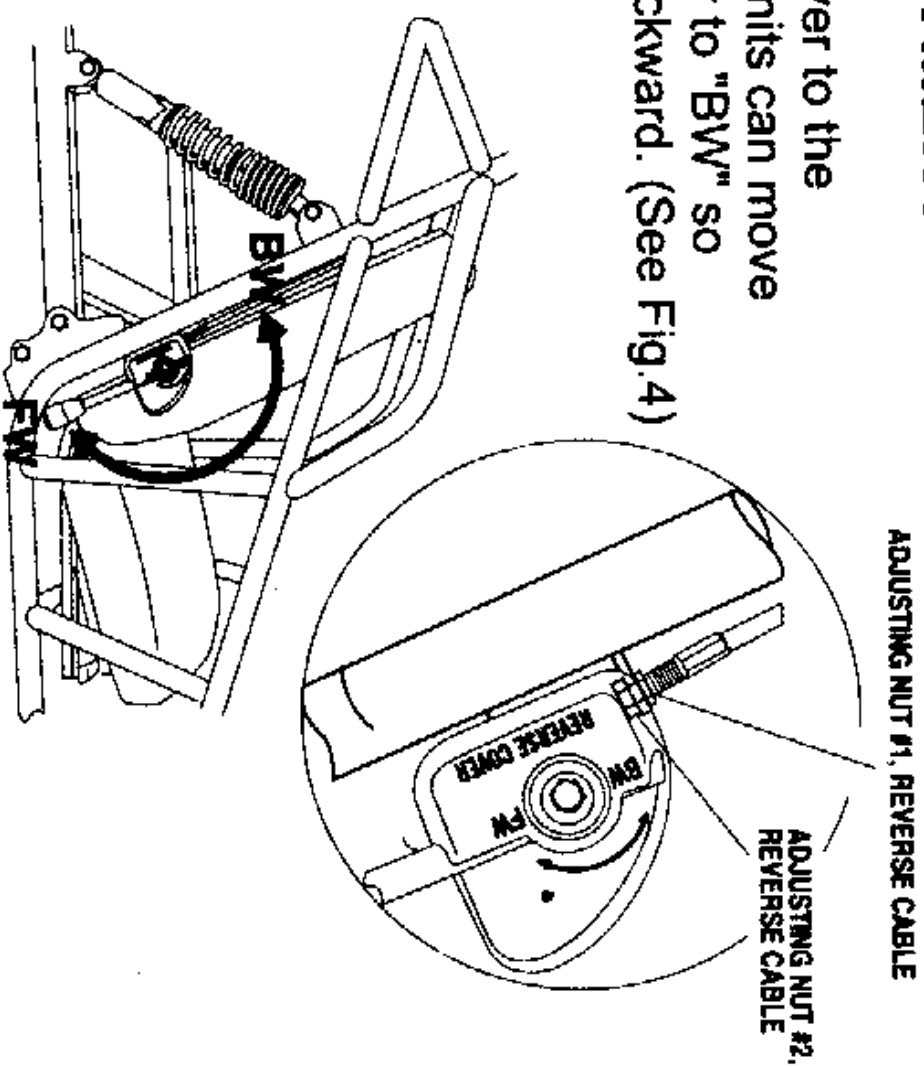

Figure 4
1. Press down the reverse lever to the "FW" position so that the units can move forward, pull back the lever to "BW" so that the units can move backward. (See Fig.4)